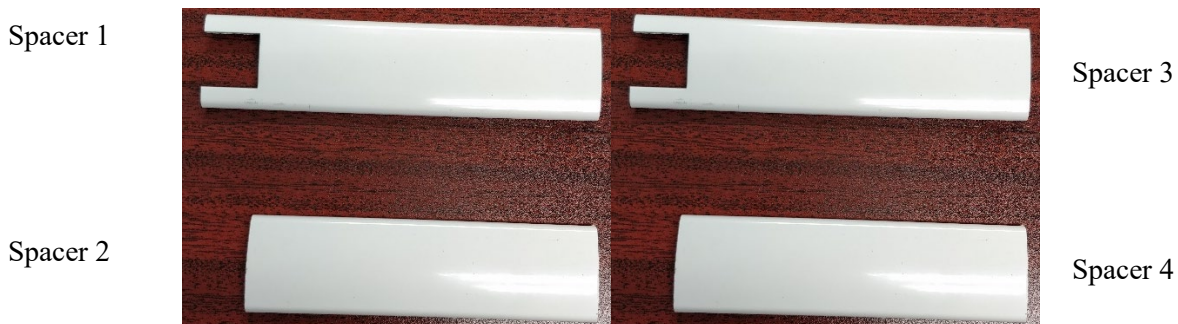

Figure 5 Spacer cuts required for even picket spacing
14. In order to get equal picket spacing at each end, cut 4 spacers according to Figure 5. Finding equal spacing may take some trial and error of sliding the spacers and then measuring. Spacer 1 and 3 will be on the top and bottom rail at Side 1, and Spacer 2 and 4 will be on the top and bottom rail at side 2 (from Figure 4b).